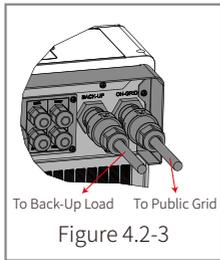

Figure 4.2-3
- **On-Grid and Back-Up Connection:** Check the on-grid connection to the power grid, and the back-up connection to the loads: Polarities (L1/L2/L3/N should be in sequence) must not be reversed (refer to figure 4.2-3).